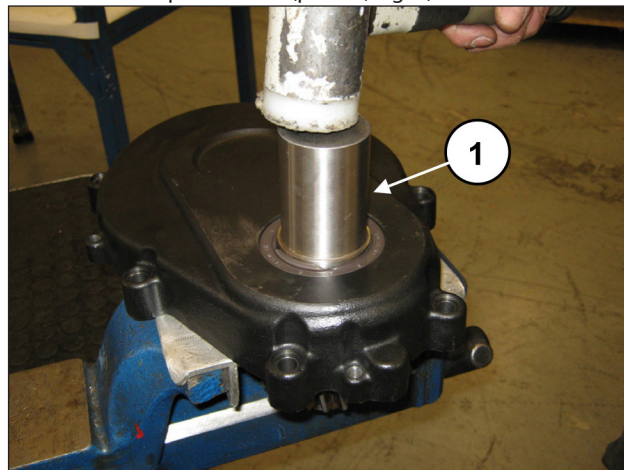

Fig. 8
Separate the pinion from the cover, working with an extractor hammer on the pinion itself (pos. ①, Fig. 8).